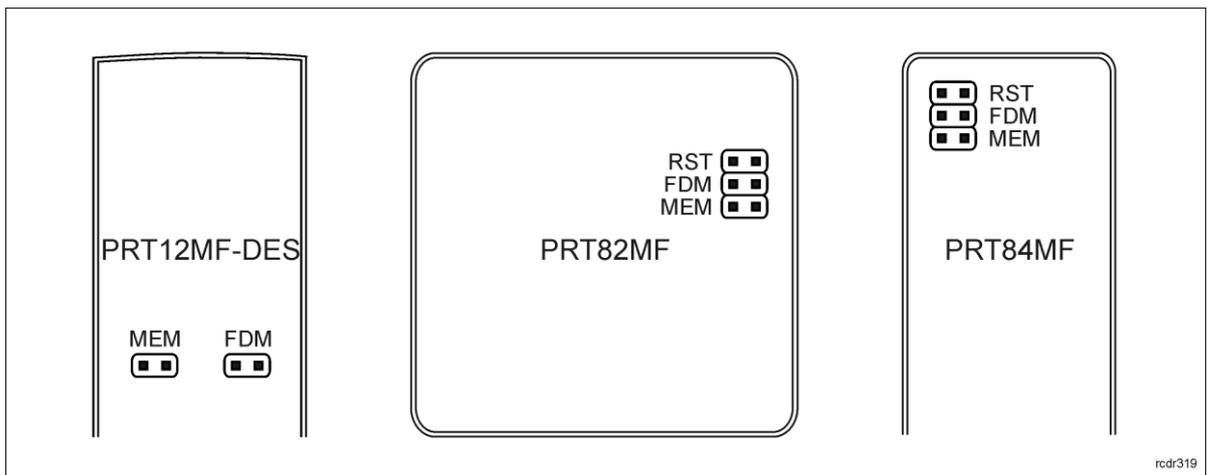

Fig. 4 Location of service contacts
2. Place jumper on MEM contacts (fig. 4).
2. Put jumper on MEM contacts (see fig. 4).